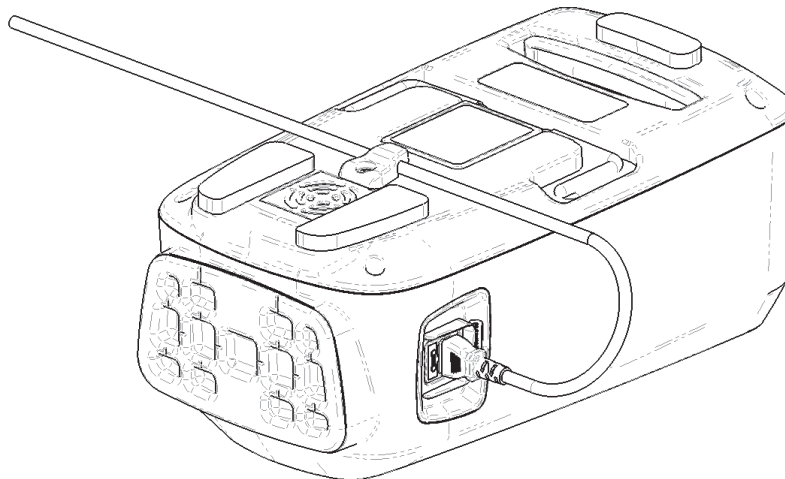

Figure 10 – Power cord secure
8. Secure the power cord (Figure 10).